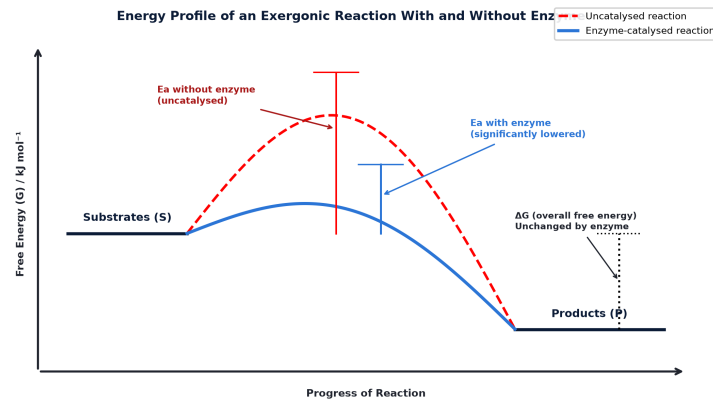

Fig. 3.1: Energy profile of an exergonic reaction with and without enzyme catalysis.
Chemical reactions in biological systems require an initial input of energy to overcome the activation energy barrier. Fig. 3.1 shows the free energy profile of an exergonic reaction in the presence and absence of an enzyme.
- (a) With reference to Fig. 3.1, define activation energy (E_a) and explain how the enzyme facilitates the conversion of substrates into products. [2]